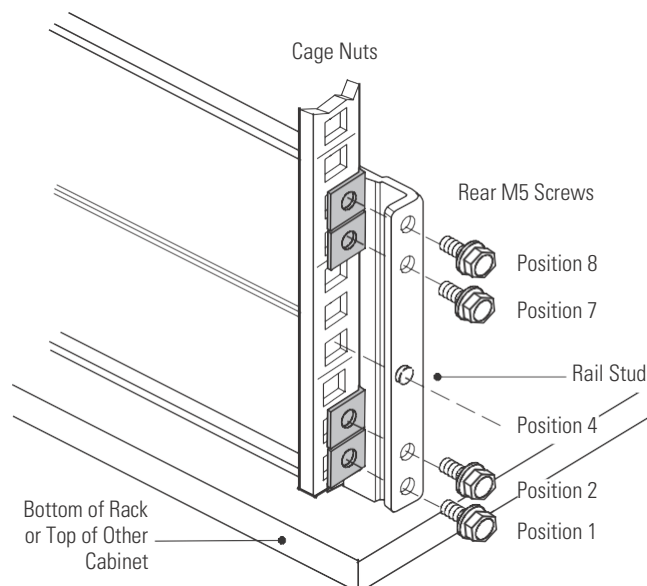

Figure 49. Securing the Rear Rail (Right Rail Assembly Shown)
5. Secure the rail to the rear of the rack with four M5 machine screws and clip or cage nuts (see Figure 49).